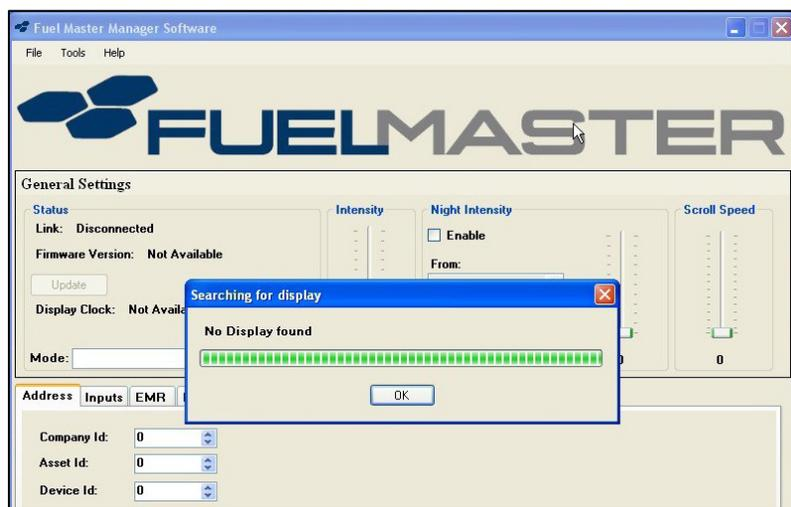

Figure 2
- Click **setup.exe**. The software program will load and create an icon on the desktop. When it opens it will scan for a display, and prompt No Display found (Figure 2).